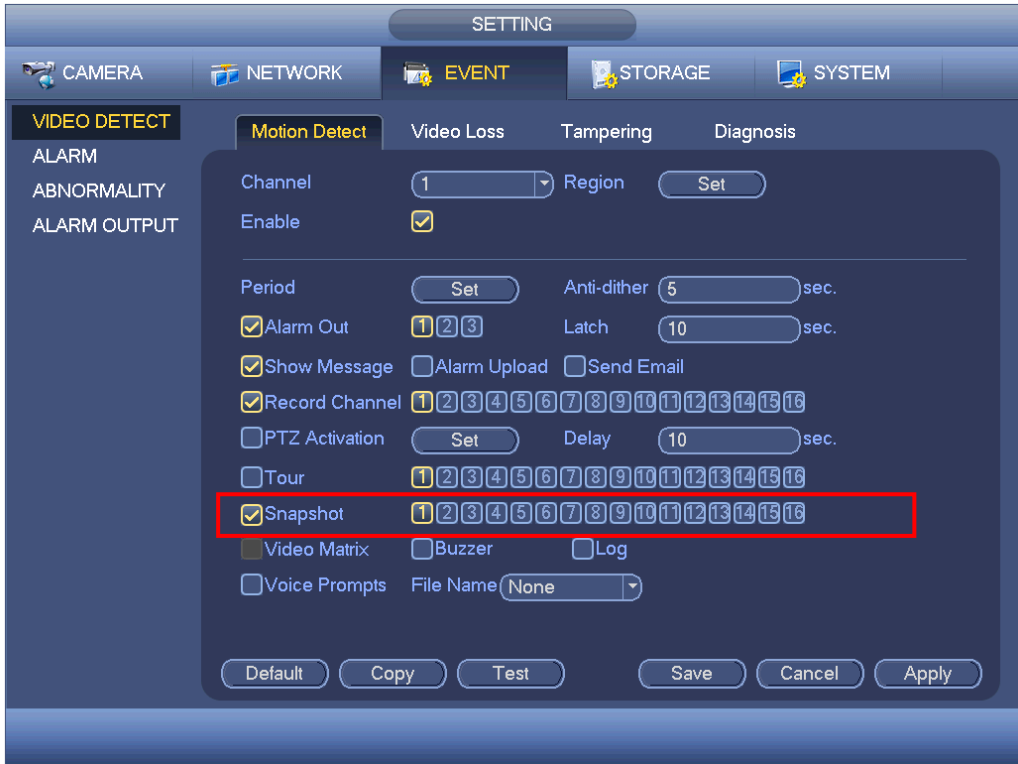
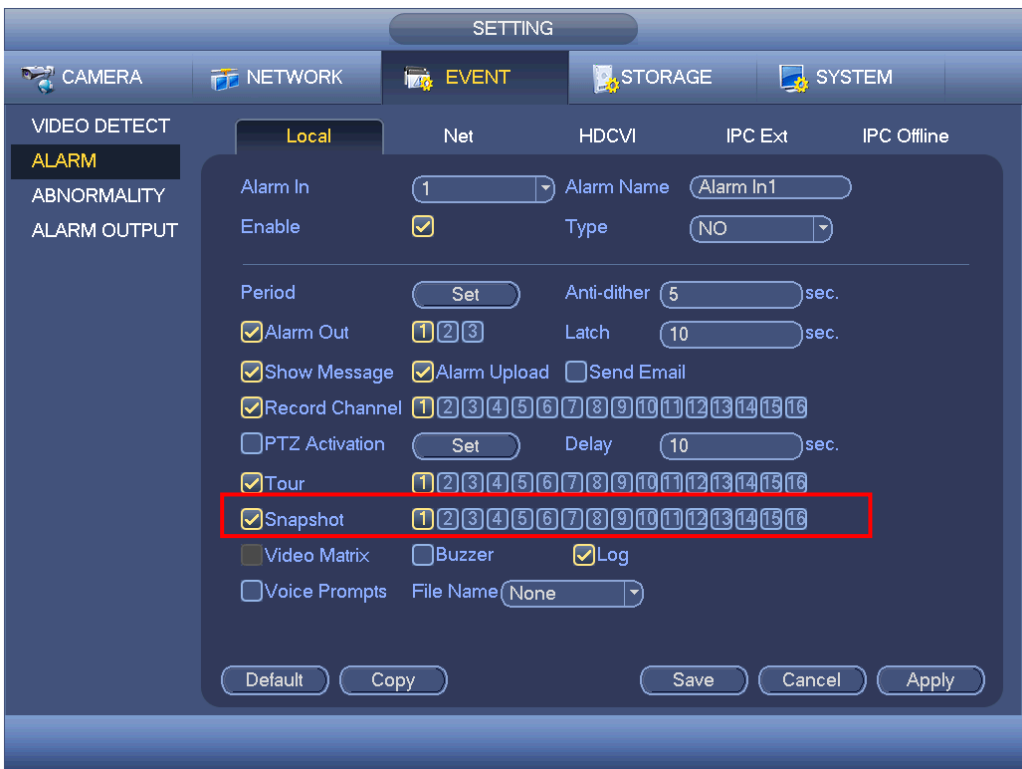

Figure 4-179
Figure 4-180
- In main menu, from Setting->Event->Detect, please enable snapshot function for specified channels (Figure 4-179). Or in main menu, from Setting->Event->Alarm (Figure 4-180) please enable snapshot function for specified channels.